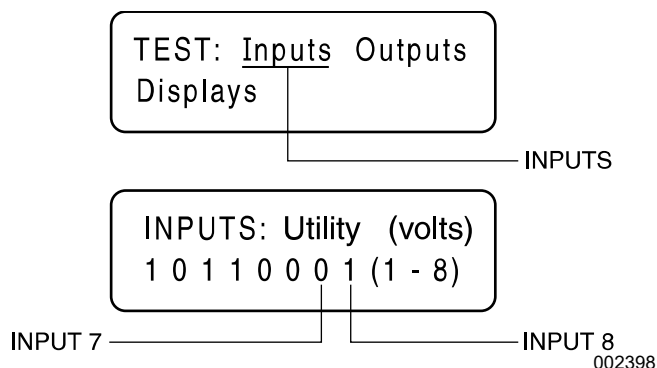

Figure 3-40. The Input Screens
1. See Figure 3-40. Navigate to the Input Screen using the menu system for the controller being worked on.